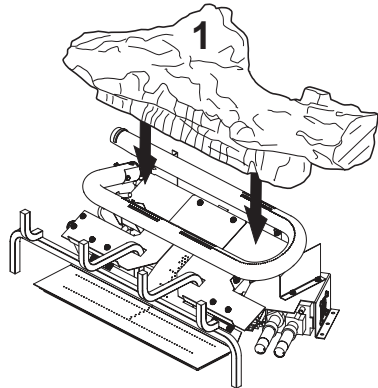

Figure 21 - Installing Log #1
1. Place rear log (#1) on base assembly as shown in Figure 21. Log will fit over right end of burner and rest in middle of U-burner.